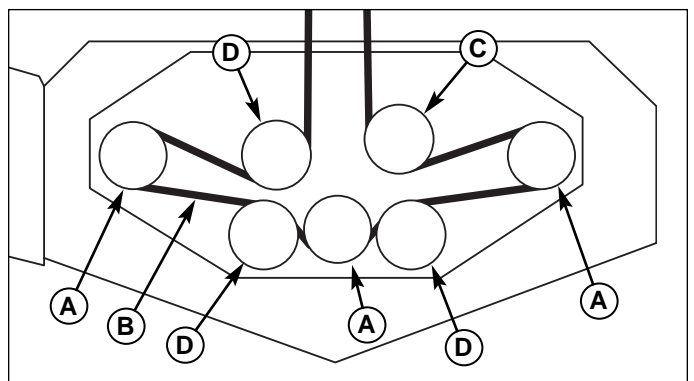

Figure 28. Mower PTO Belt Routing
6. Remove the old belt and replace with a new one. Make sure the V-side of the belt runs in the pulley grooves (Figure 28).